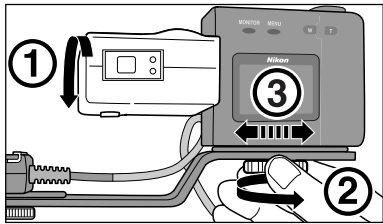

図 2/Figure 2/Abbildung 2/Figure 2/ Figura 2/Figur 2/Figura 2
- Attach the camera to the flash bracket. Rotate the lens section in the direction indicated in ① and place the camera on the flash bracket. Rotate the locking screw clockwise ② to screw it part way into the camera's tripod socket. After rotating the lens section to the limit of its rotation (300°, or 270° in the case of the COOLPIX 900 model E-900s), position the camera by sliding it left or right ③ and rotate the locking screw clockwise ② to fix the camera in place (Figure 2).